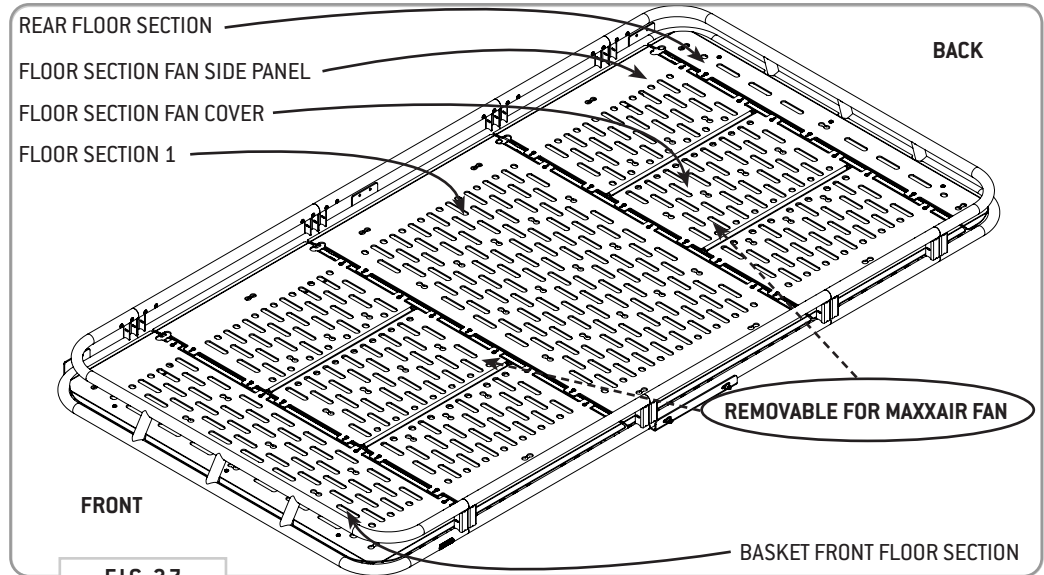
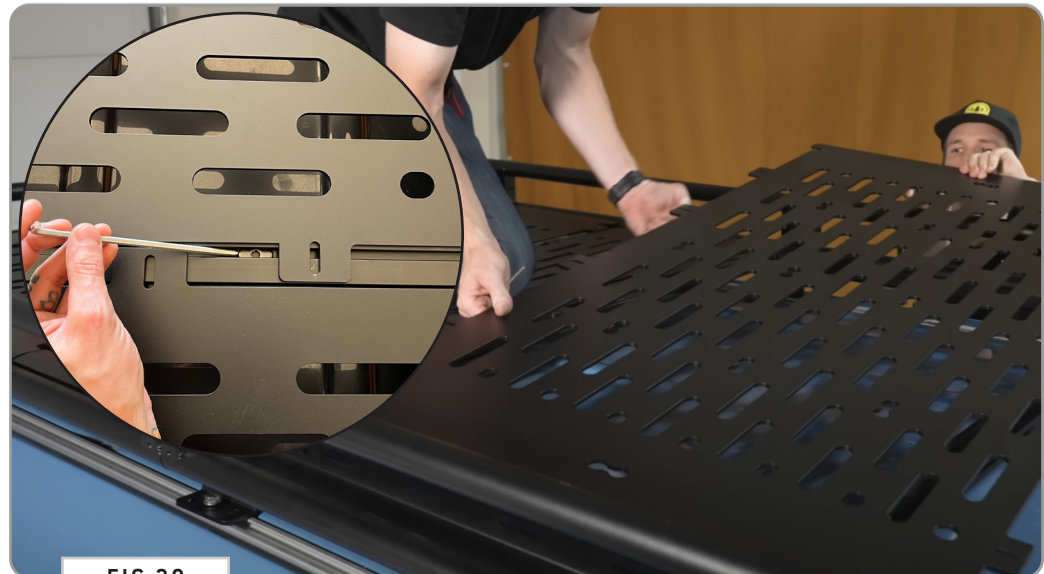

FIG 27
FIG 28
**11.1 Install Floor Panels:** Begin to layout your **Decking Panels** along the locations shown in **FIG 27**. Adjust the **T-Nuts** as necessary to line up with the available pill slots of the **Decking Panels** (**FIG 28**).